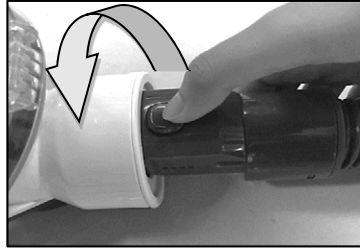

Fig 2
2. **Remove the hose accessories:** If you want to disassemble it, you can turn the hose connection left and then pull it out. (Fig 2)